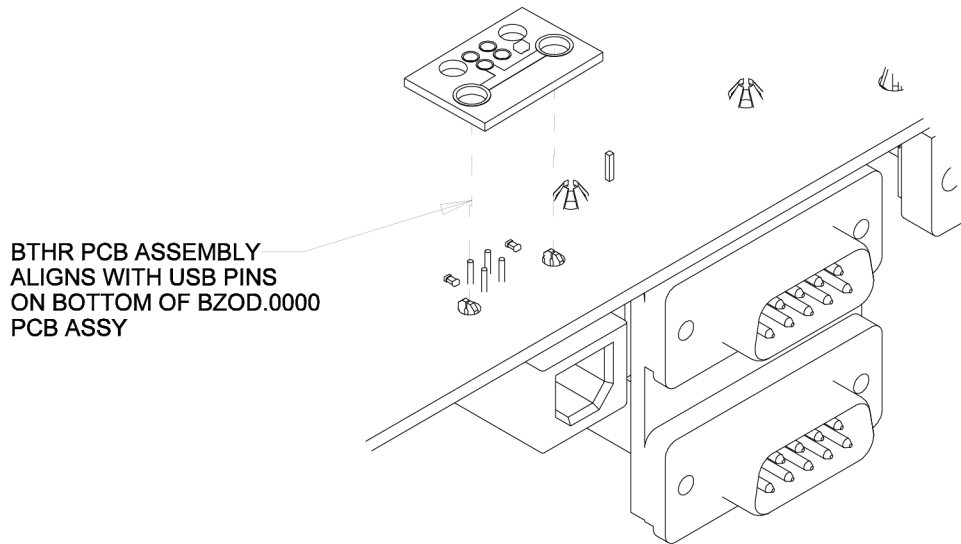

Fig 3 Placement of BTHR module.
8. Place the BTHR module in position as shown (Figure 3).